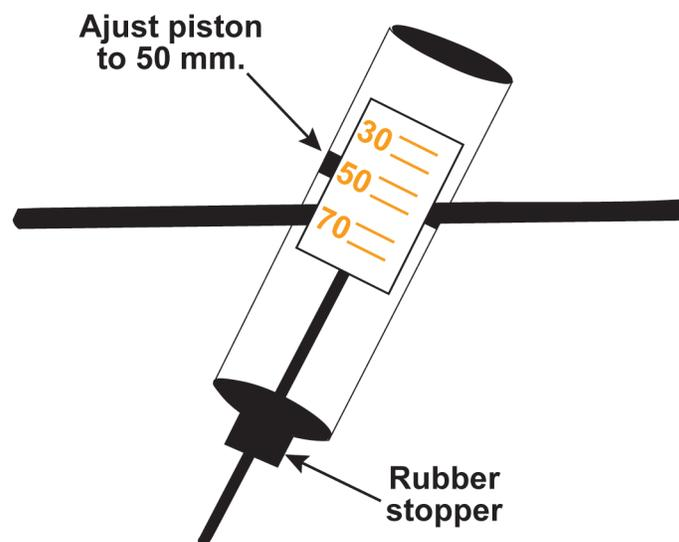

Figure 13
- 6. Adjust the rubber stopper until the top of the spring is positioned at 50 mm. See Figure 13.